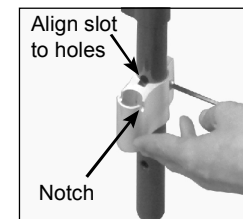

Figure 7
- If ordering footrests, slide the footrest clamp over the leg tubes making sure the notched end faces upward. Align the center slot on the clamp to the holes on rolling base leg (Fig 7). Secure the clamps with bolts. The height is adjustable and can be re-positioned when the seating is fully assembled for correct fit.